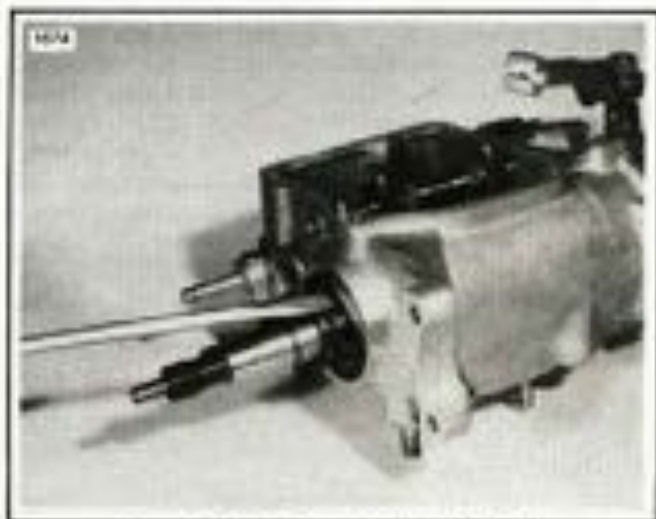

Figure 7-28. Removing the Oil Seal
2. See Figure 7-28. Pry the oil seal from the transmission case using a screwdriver.